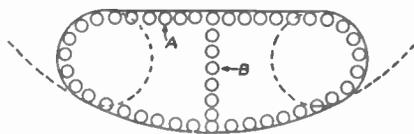

FIG. 4
a series of holes (A) into the cabinet as shown in Fig. 4. Use about a No. 32 or a 1/16th inch diameter twist drill. Remember you are working on the face of
the cabinet so be careful and do not mar the finish beyond the area that is not covered up by the escutcheon. Then take a sharp knife and cut along the line of the holes, thereby starting the opening for the meter. If necessary break the center piece up into two sections. You may do this by drilling the holes as shown by B in Fig. 4. Having trimmed the surface away between the holes below the level of the panel, you may insert a medium sized screw-driver and break the two pieces loose. Then pry the loose sections back and out. Incidentally many servicemen prefer to cut this hole out with a keyhole saw.